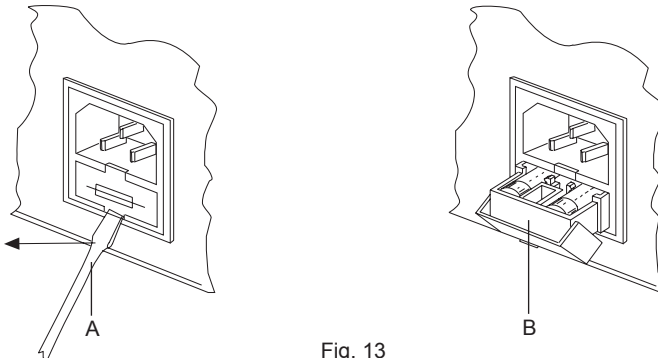

Fig. 13
- 1 Use as a lever the flat tip of a screwdriver, by inserting it into the housing of the fuse-holder compartment, under the power supply socket (Fig.13 - Ref.A).
- 2 Pull out the fuse-holder compartment (Fig.13 - Ref.B).
- 4 Put the fuse-holder into place in its housing (Fig.13 - Ref.B).